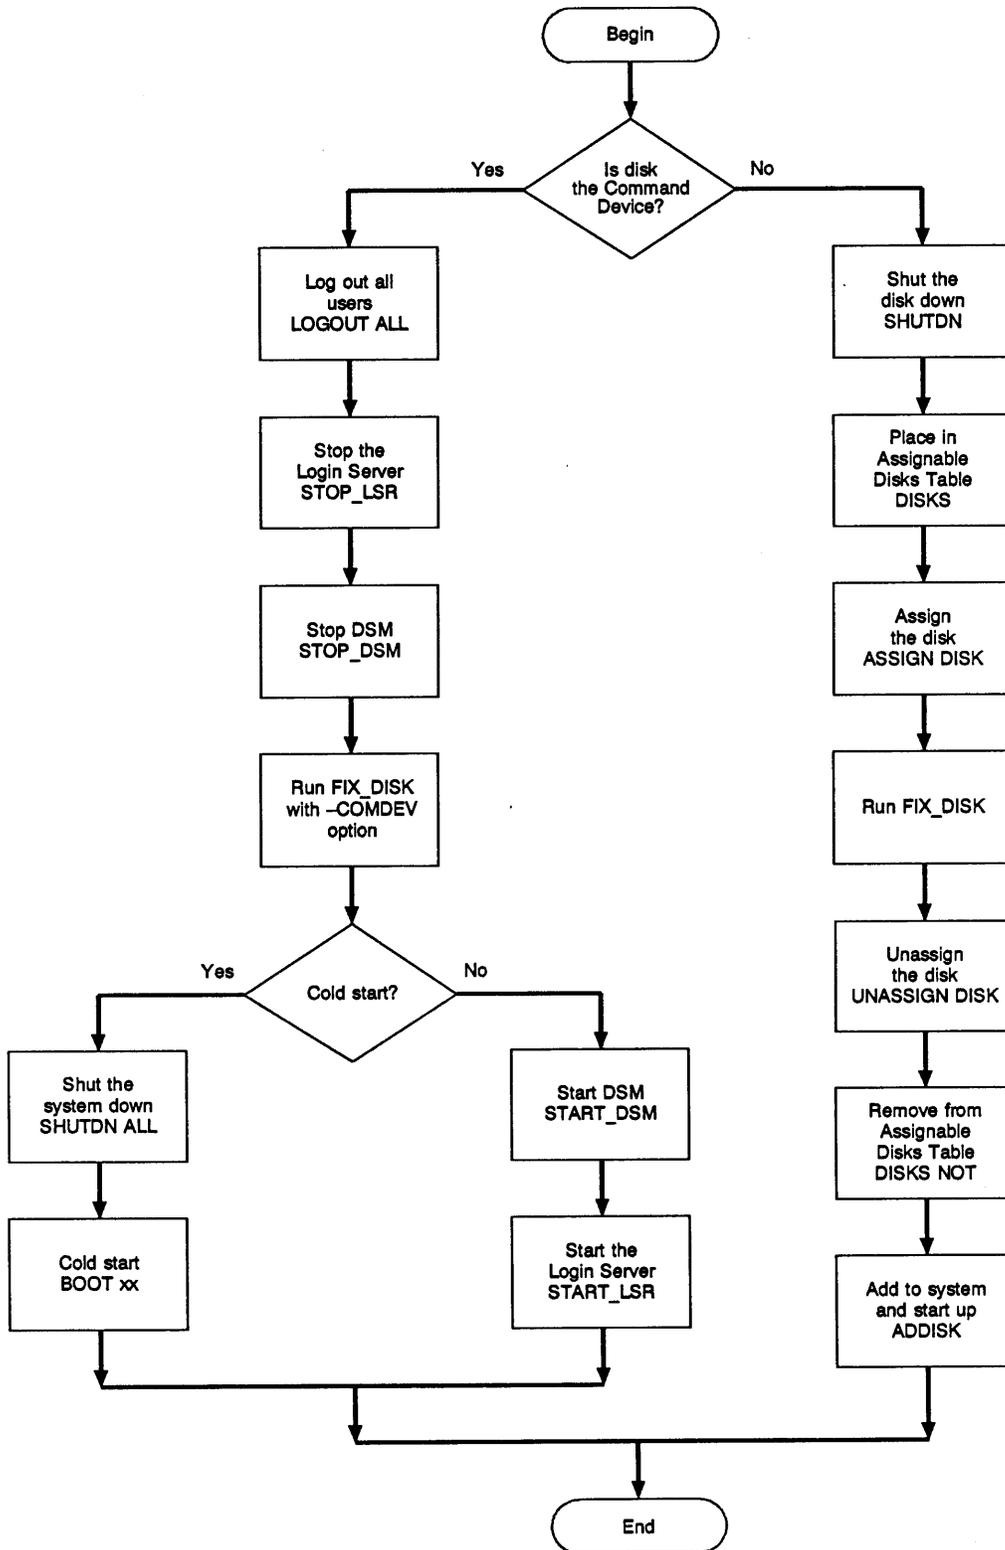

FIGURE 6-1. Disk Repair Using FIX\_DISK
Sometimes, FIX\_DISK is run to repair a defective file structure. In this case, follow the procedures described in Chapter 4 to shut down the partition, warning users that the partition you will repair is to be shut down. Then use the disk repair procedure, which is illustrated in Figure 6-1 and explained in the next section.
If the partition you are repairing is the command device, follow the left-hand path in Figure 6-1: log out all users, stop the Login server by using the STOP\_LSR command, and stop DSM by using the STOP\_DSM command. (See the discussion of the -COMDEV option in item 7, Repair or Use the Command Device, for details.) Then specify the FIX\_DISK -COMDEV option and PRIMOS automatically performs all the procedures illustrated on the right-hand path in Figure 6-1 from shutting the disk down to starting it up again. However, it may be desirable to cold start the system when you repair the command device and FIX\_DISK finishes so that all system servers are automatically restarted and any other servers and phantoms are started by inclusion of the appropriate commands in your PRIMOS.COMI file.
If you are not repairing the command device, perform the procedures shown in the right-hand path of Figure 6-1 at the supervisor terminal: shut down and assign the partition; run FIX\_DISK; unassign and startup the partition. Note that you can invoke the SHUTDN, DISKS, and ADDISK commands only from the supervisor terminal but you can run FIX\_DISK at a user terminal.